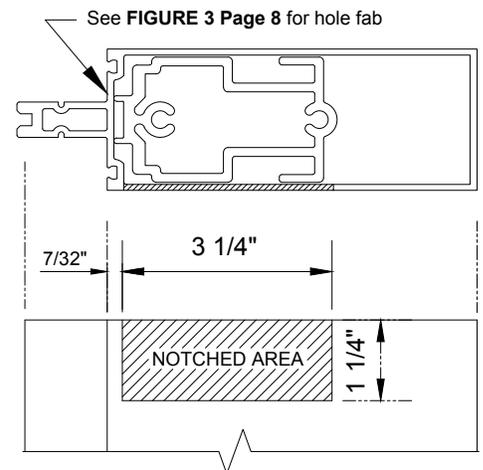

Figure 13
- NOTE: If roll-over horizontals are used, all vertical mullions can be installed first. If tubular horizontals are used, the wall must be stick erected. Last bay tubular horizontals must be notched. SEE FIGURE 13 page 11. Option: Use roll-over horizontals at last bay to avoid notch.**